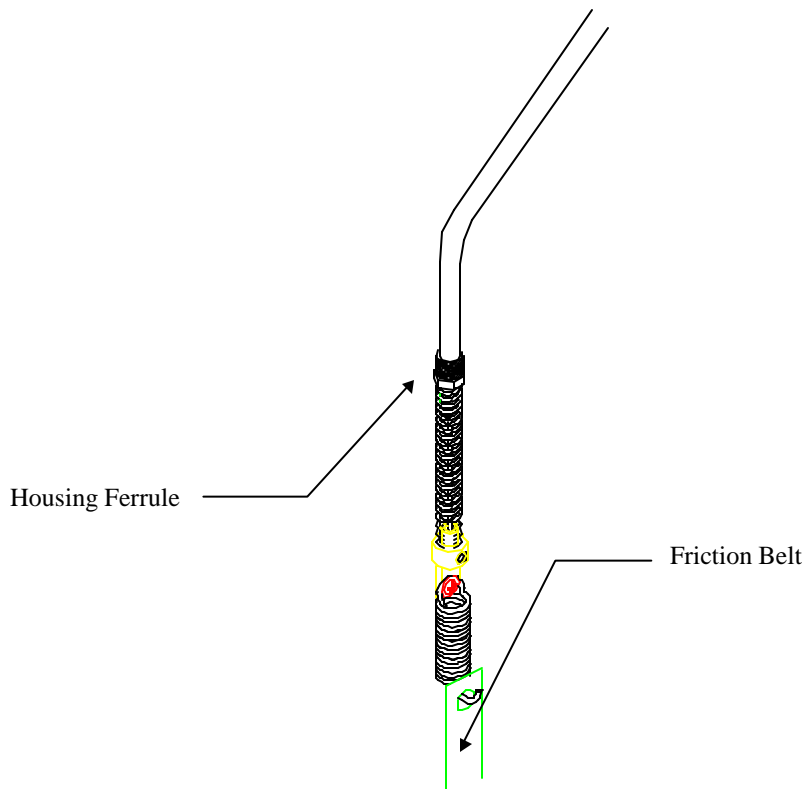

Figure 3
2. The cable assembly is preset at the factory for proper adjustment. A small amount of cable slack can be taken out by adjusting the cable housing at the adjustable ferrule (Figure 3).